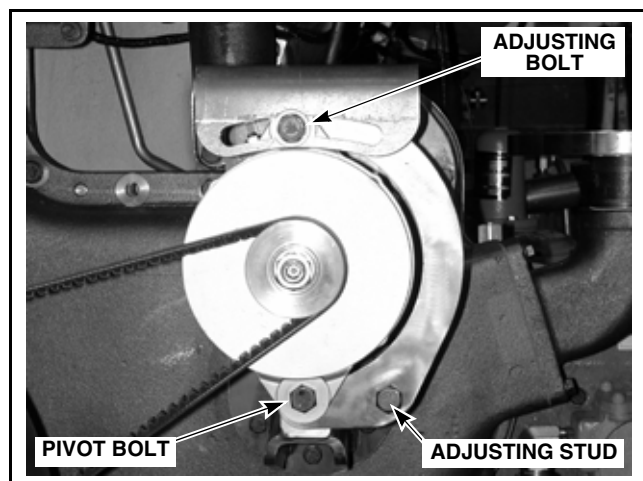

Figure 4.05-8 Alternator Belt Adjustment
2. Loosen the pivot bolt on the alternator (see Figure 4.05-8).
3. Loosen the adjusting bolt on the alternator (see Figure 4.05-8). Make sure the alternator body rotates freely around the pivot bolt.